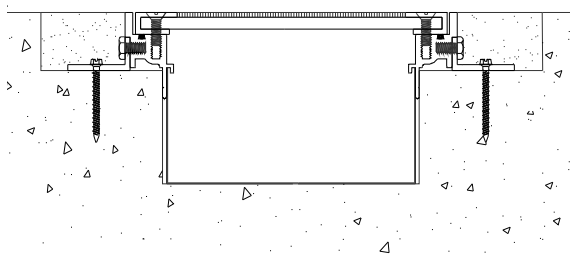

Figure 9
**STEP 12.** Install the tile into the cover plate recess at the time of installation of the finished floor (see Figure 9). Install the tile in accordance with the tile and adhesive manufacturers' instructions.